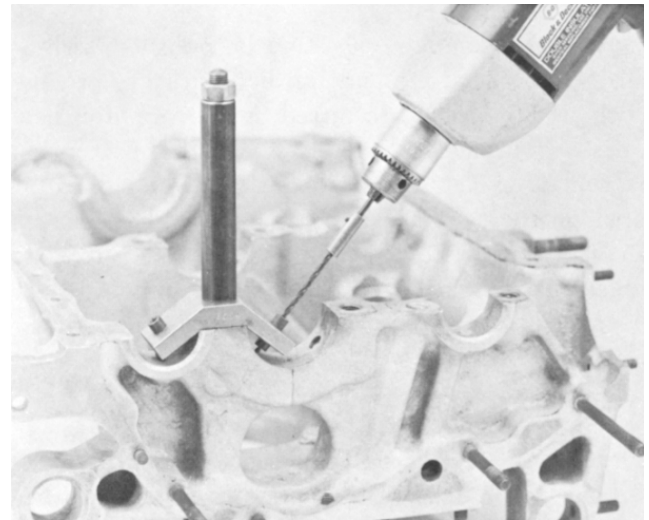

Figure 28. Drill Fixture Installed
2. Install drill fixture over remaining stud at rear crankshaft boss. Align guide points of fixture so they straddle the index pin. (See Figure 28)